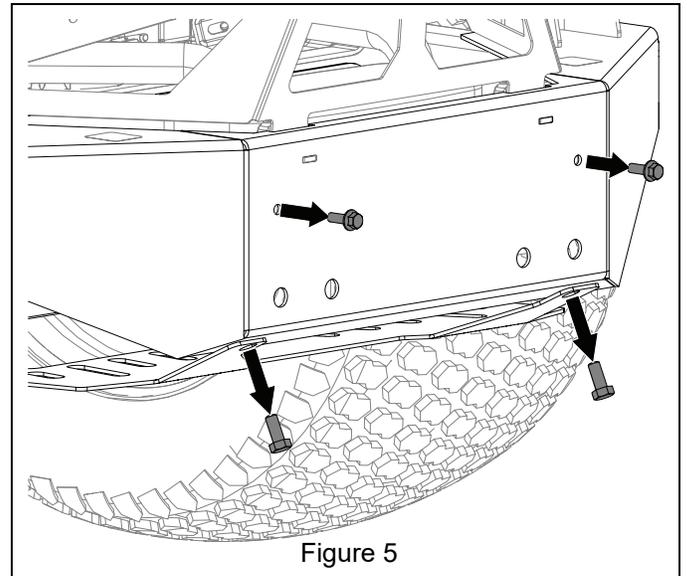

Figure 5
- Remove and retain hex bolts retaining heat shield to bumper. See Figure 5.